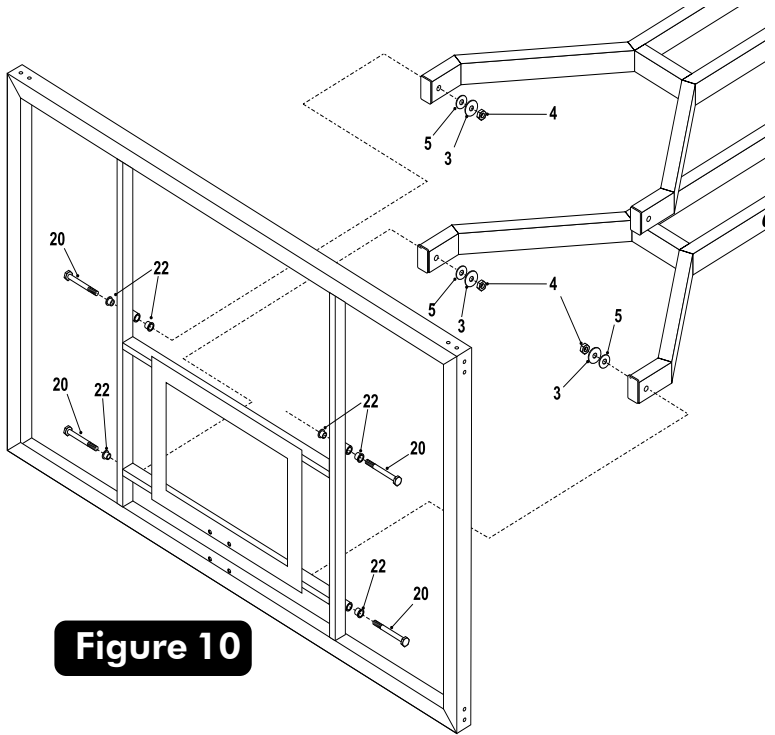

Figure 10
- 14. With at least three capable people, raise the backboard assembly up and have the fourth attach Lower Board Arms to lower mounting tubes on backboard using two bolts (#20), four Board Bushings (#22) (shipped already installed), two plastic washers (#5), two washers (#3) and two hex nuts (#4). See Figure 10.
- 15. Attach Upper Board Arms to upper mounting tubes on backboard using two bolts (#20), four Board Bushings (#22) (shipped already installed), two plastic washers (#5), two washers (#3) and two hex nuts (#4). See Figure 10.